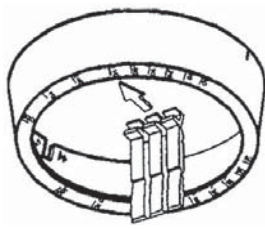

Fig. 25
The lens shield contains 13 segments each of which can be broken in half. Each segment can block 10° detection angle within the field of view by pressing it onto the outer ring of the sensor head. (See Fig. 25). The segments only work on the outer 240° zone. The inner 3m radius zone is unaffected.
3. Insert the lens shield segments into the slot of the outer ring as following illustration (See Fig. 25). Then put the outer ring back into position on the sensor head. The example shown will have blocked a 30° detection angle within the outer 240° zone.
You can start the "Walk Test" in any ambient light level and the light will go on for about 6 seconds after each detection. While the light is ON and for 2 seconds afterwards the person carrying out the walk must remain stationary before continuing on the path shown in Fig. 25.
1. Follow Fig. 25 and start the Walk Test across the detection zones to check that the light under control comes on when entering or leaving a zone. Repeat it and adjust the METER knob or sensor head until you are satisfied with the detection area.